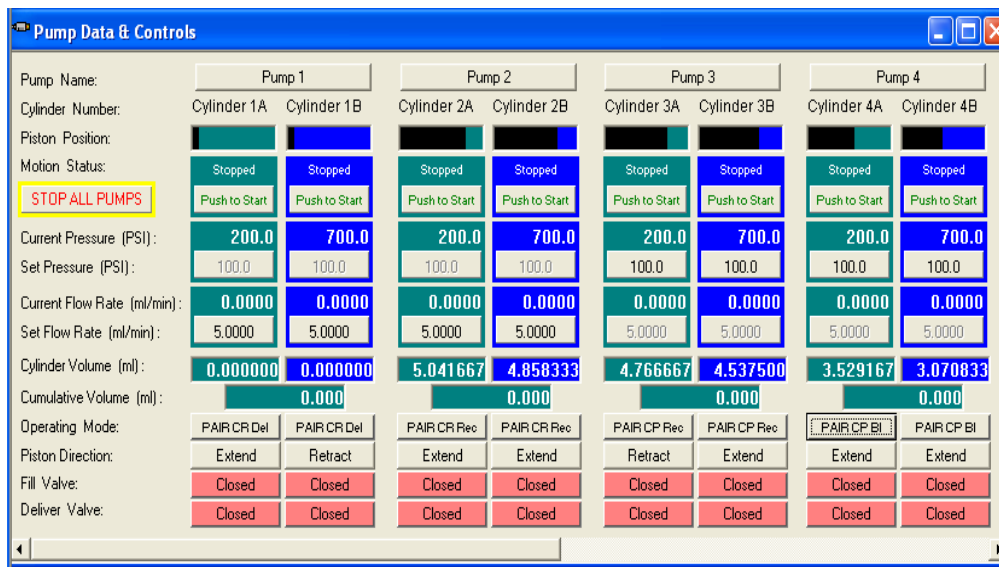

Figure 6C, Pump 4 Piston Position for Bi-Directional Mode
12. Bi-directional mode is used when the application requires that the pump be capable of delivering AND receiving fluids at a pressure set point. Pumps operated in Bi-Directional Pressure Mode should have their pistons set at 50% extended position for correct start-up. See Figure 6C, and